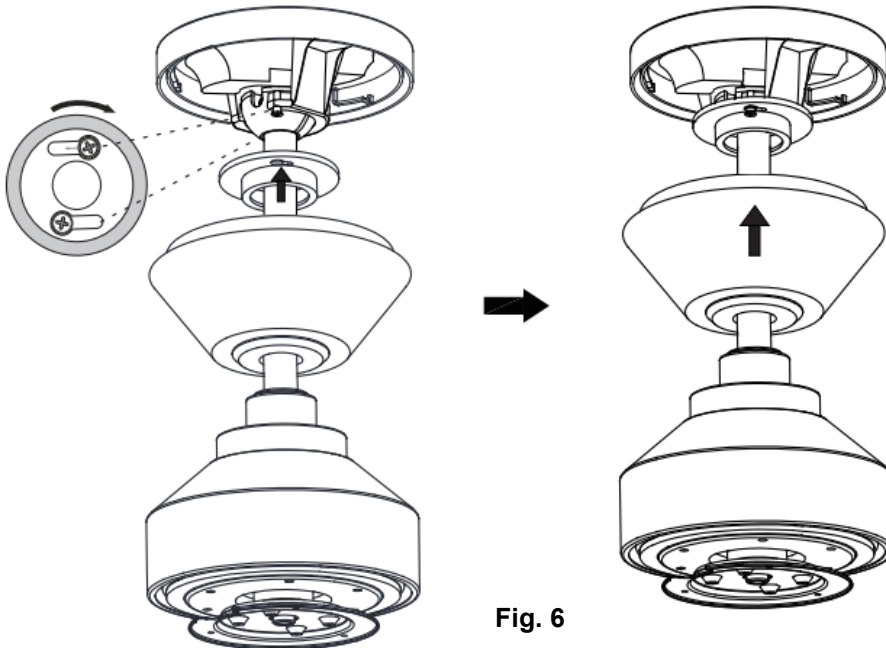
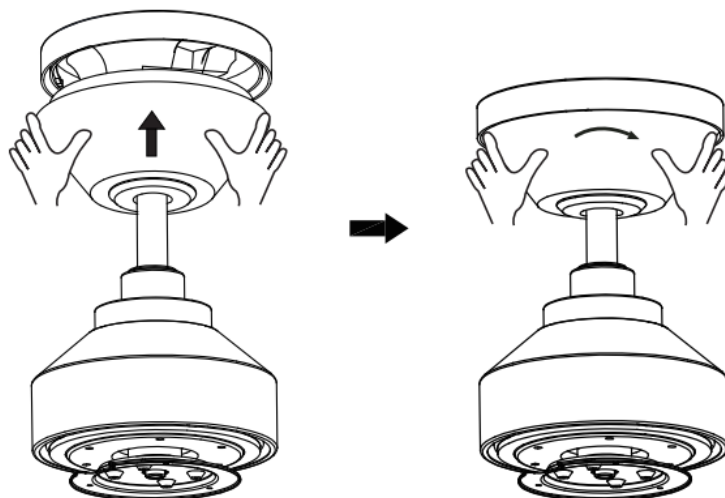

Fig. 6
Fig. 7
INSTALLATION OF THE CANOPY (Fig. 6& Fig.7)
2. Slide the canopy bracket up to the mounting bracket and align the key holes on the canopy bracket with the screws on the mounting bracket. Turn the canopy bracket until it locks into place with the narrow section of the key holes, and secure it by tightening the two screws. Avoid damaging the electrical wiring prepared previously. (Fig. 6)
3. Slide and push the canopy up to the canopy cover by turning clockwise. (Fig.7)